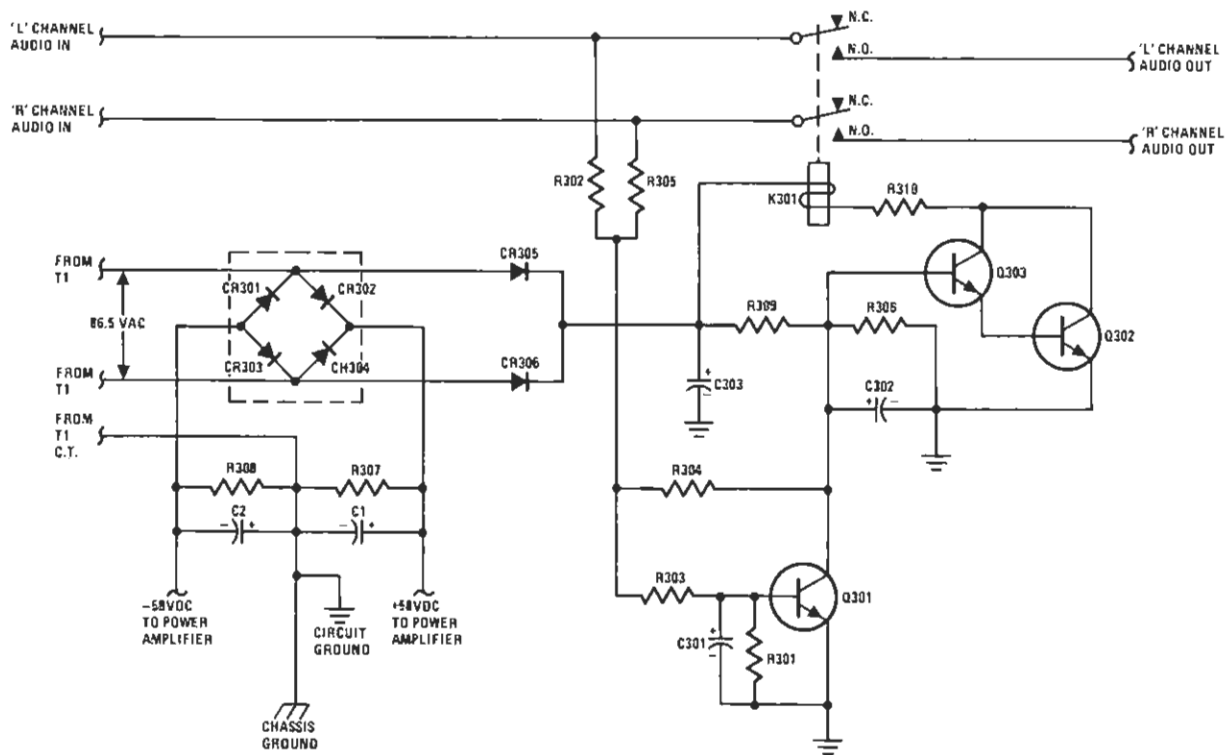

FIGURE 2. RECTIFIER/RELAY BOARD SIMPLIFIED SCHEMATIC
**Page 4** — Replace Figure 2. (Rectifier/Relay Board Simplified Schematic) with Figure 2, contained herein.